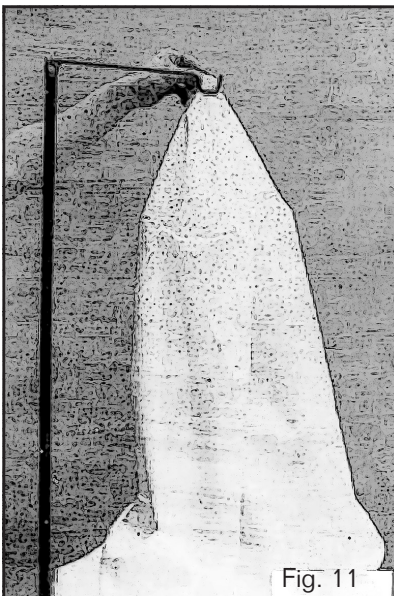

Fig. 11
Next, hang the two bags (H) from the support rods as shown in fig. 11.